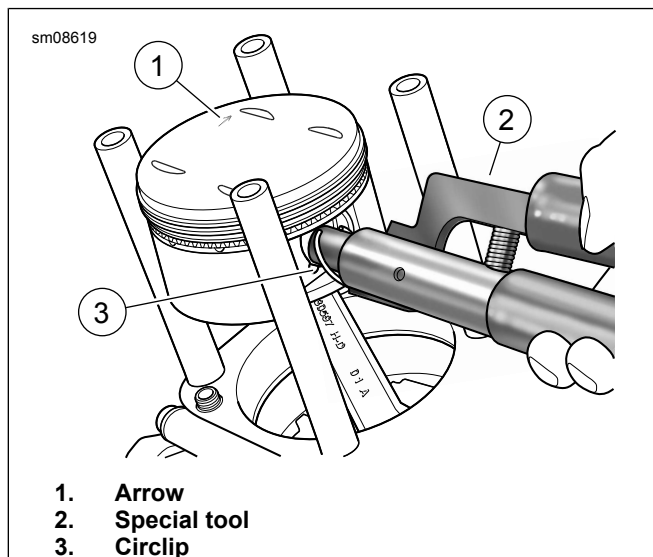

Figure 4. Install Circlip
2. Figure 4 Align and insert special tool (2) with circlip into piston.